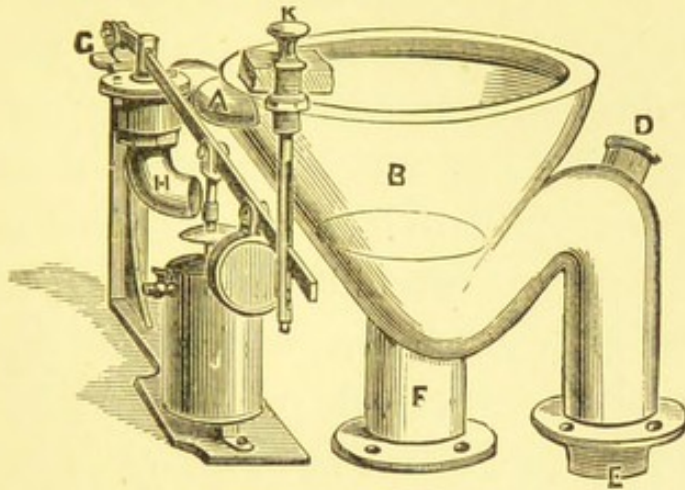

FIG. 83.—View of "Vortex" Closet with Valve and Regulator Apparatus.\*
(2) It can also be supplied by a *Valve and Bellows-regulator* arrangement, as shown in Fig. 83, but the size of the valve, H, is of great importance. A 2 in. valve, as shown at H, giving a clear water-way, in its smallest part, of  $1\frac{1}{8}$  in. full, is made to go with the closet, when the cistern which is to supply it is only 4 or 5 ft. above the seat. But when the cistern stands 6 ft. or 7 ft. above the